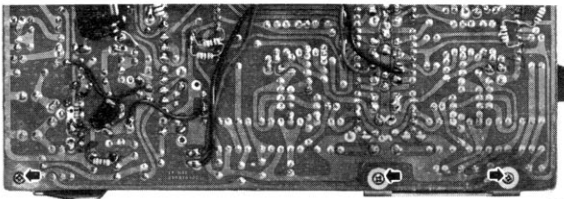

Fig. 34
- 1) Remove 3 screws. (Refer to Fig. 34)